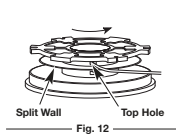
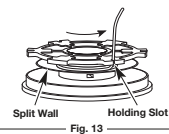

Fig. 12
Fig. 13
2. Insert the end of one line into the top hole in the inner reel (Fig. 12). Wind the line tightly in the direction shown on the bottom of the inner reel until about 6 inches (150 mm) of line remains. Keep the line above the split wall. Insert the 6-inch section into the nearest .095 holding slot (Fig. 13).